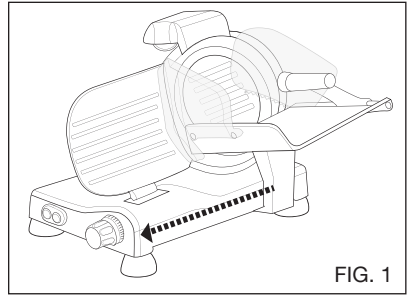

FIG. 1
- Loosen the locking knob (13) of the sharpener group (10). See Fig. 1.
1. **Make sure that the thickness control knob is in position “0” – Fig. 1 (the system operates only if the thickness control knob is in position “0”).**